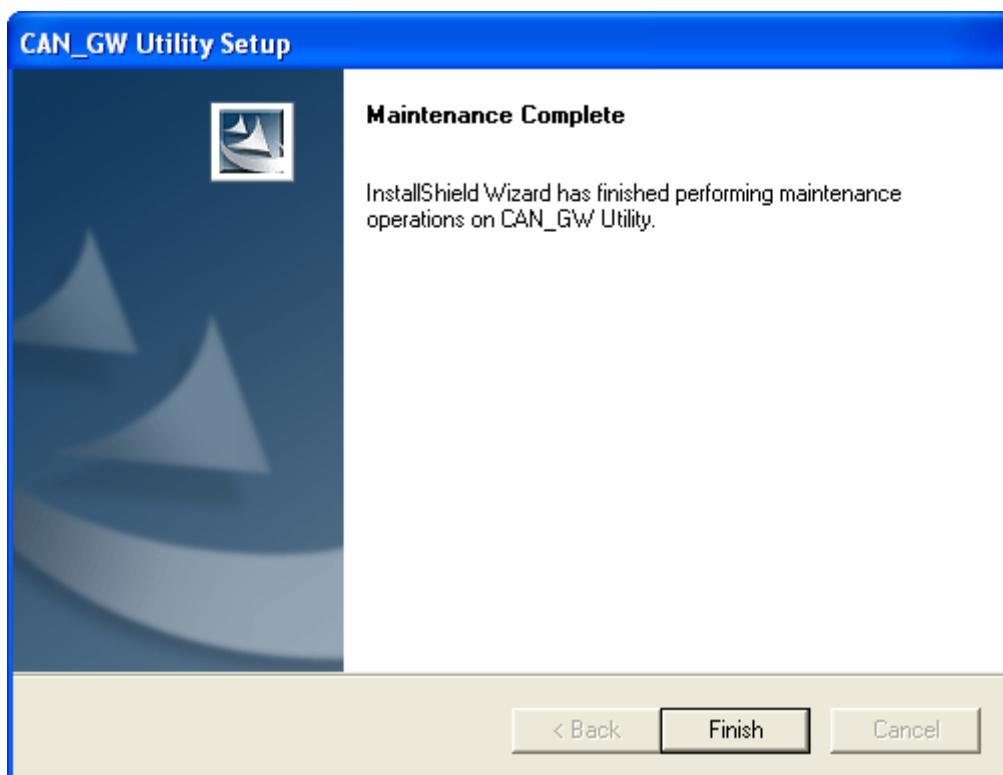

Fig 5-13. Click button “Finish”.
Step 5: Click the “Finish” button to finish the uninstalling process. Refer to Fig 5-13.